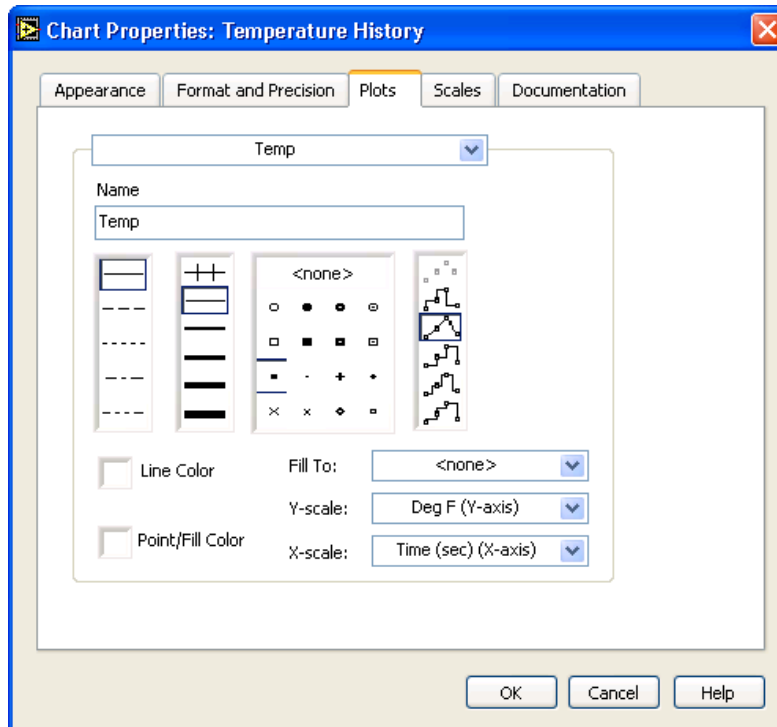

Figure 7.7
- (c) Click the Plots tab and select different styles for the y-axis, as shown in Figure 7.7.